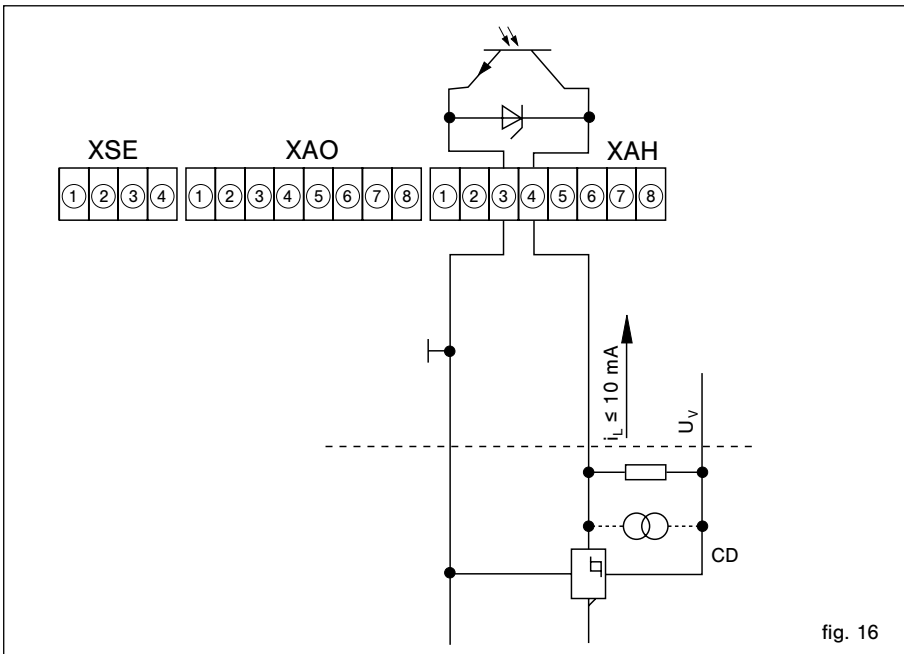

fig. 16
**Electronic signal processing** (see fig. 16)